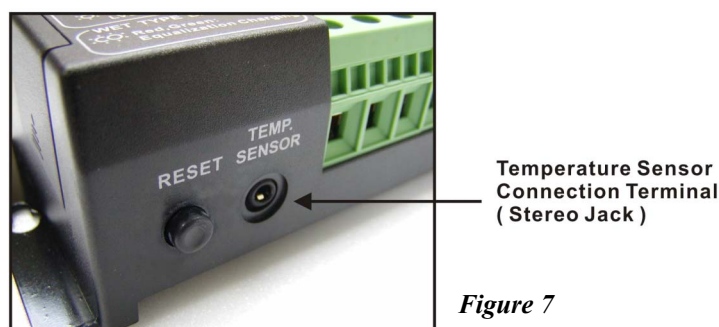

Figure 7
2. On the small control board, there is a sky blue color dip switch. Turn the dip switch 1 and 2 to *ON* position as shown in figure 7.